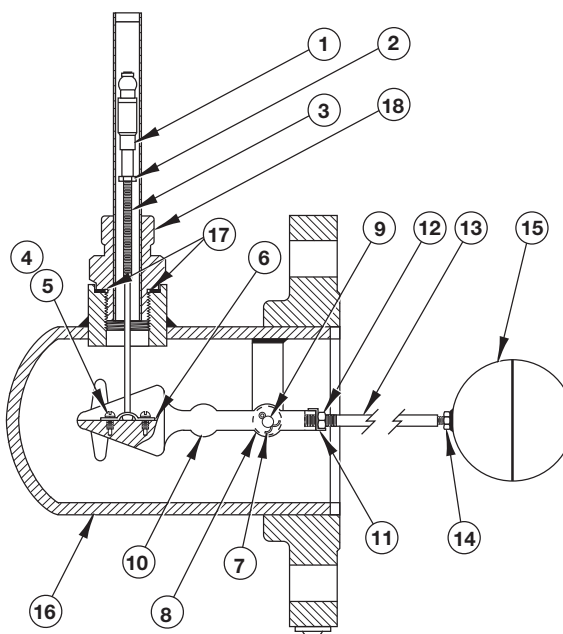

Figure 33
3.3.1.2 Models P68-2H3A, P68-2H4A and P68-2H5A 4" Flanged (See Figure 33)